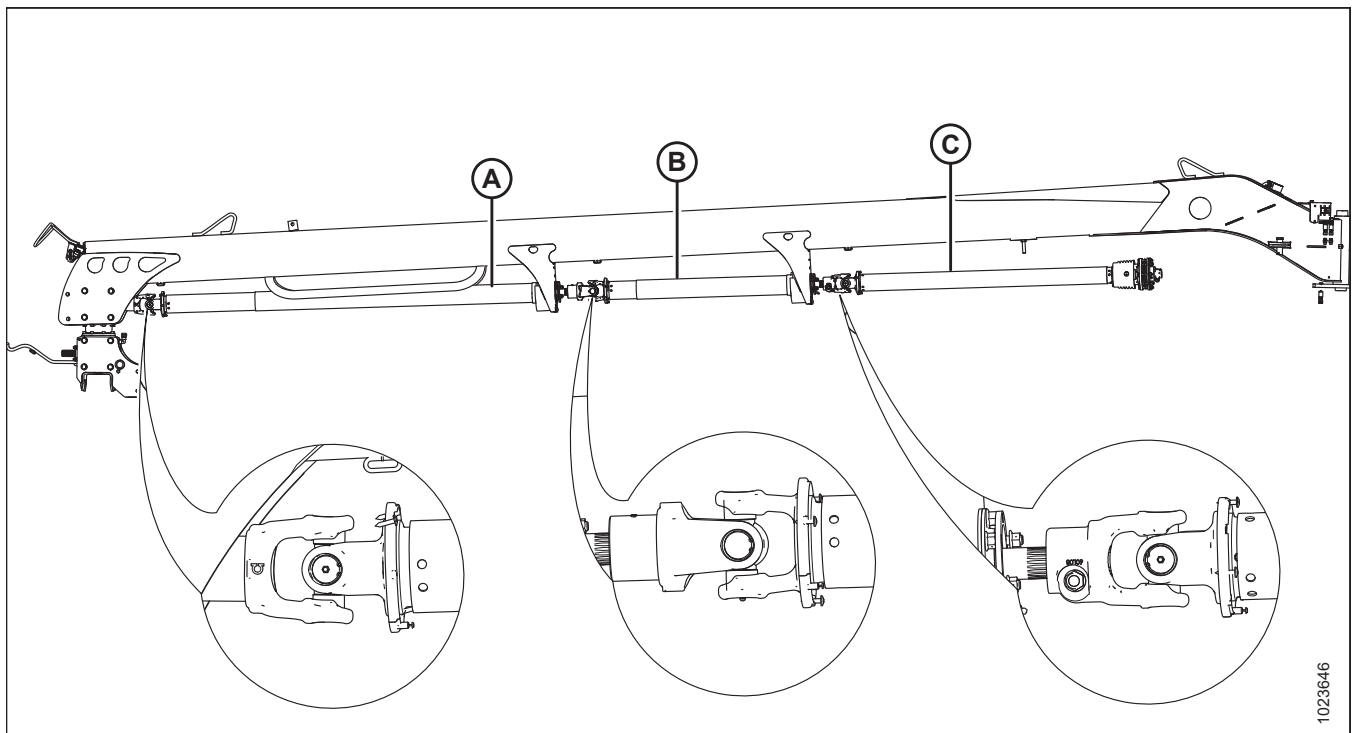

Figure 4.207: R116 Rotary Disc Pull-Type Driveline Phasing
On the R116 rotary disc pull-type (refer to Figure 4.207, page 225), the U-joint on middle driveline (B) must be aligned 90° to the U-joints on front driveline (A) and clutch driveline (C).